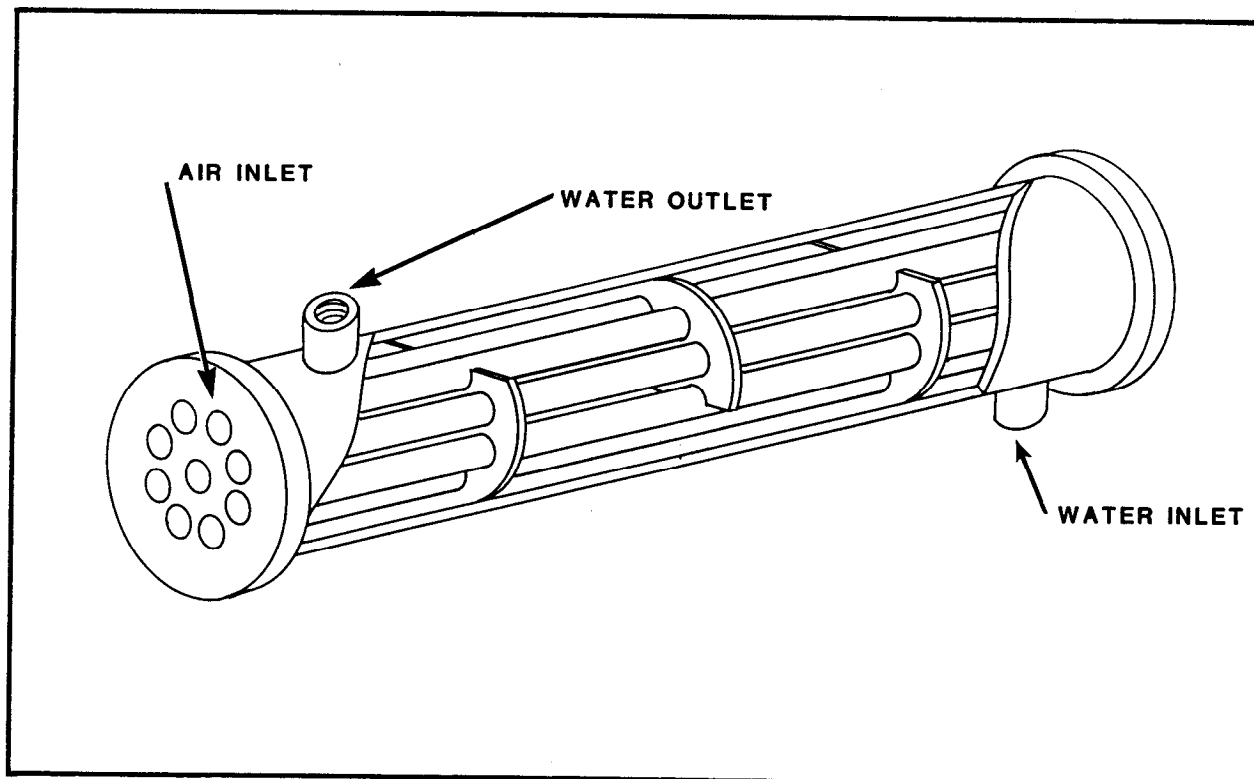

FIGURE 4-4. Water-Cooled Heat Exchanger
1.2 Water-Cooled Heat Exchanger. The most common design of water-cooled heat exchangers, shell and tube type, consists of a single bundle of tubes enclosed inside a cylindrical shell (figure 4-4). The air to be cooled passes through the tubes while the water passes over the tubes. Baffles are often provided in the tube bundle to direct the waterflow across the heat exchanger tubes in the most efficient manner.